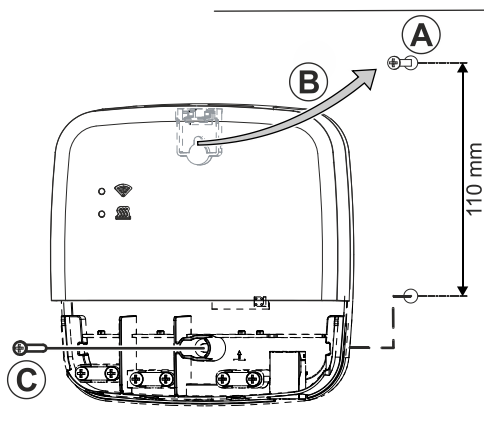

Fig. 3: Wall installation
Install the **heatapp! base** with the supplied installation material in the selected installation location (Fig. 3, (A) - (C)).